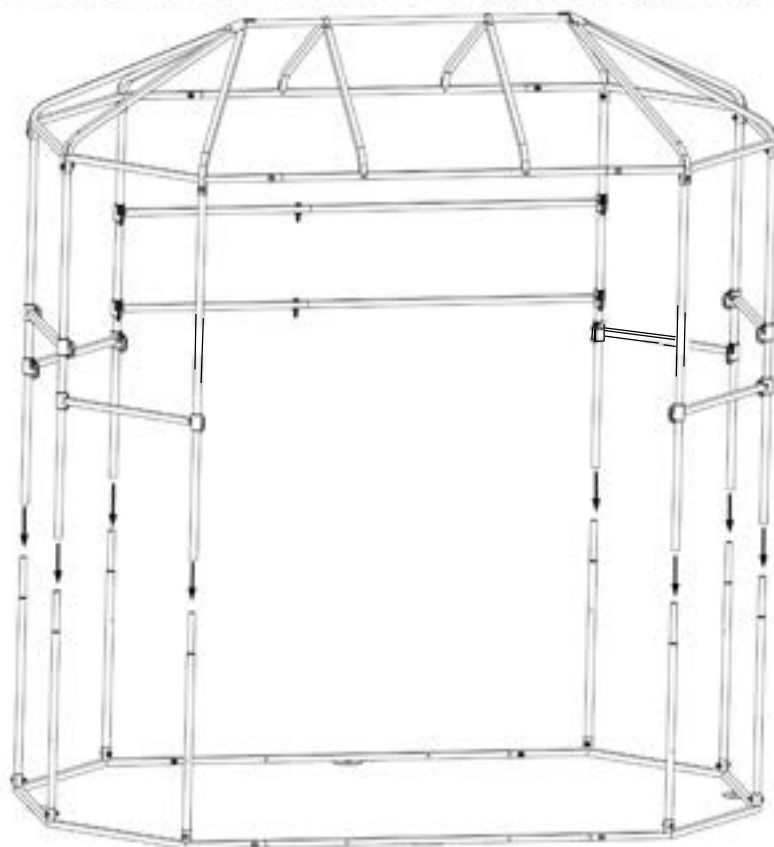

Figure 9
**Step 9.** With the help of at least two people place the roof section on by sliding the uprights together. It is best to insert each upright in about 1 inch then start lining them up all the way around and slide the assembly on all at once as seen in figure 9.